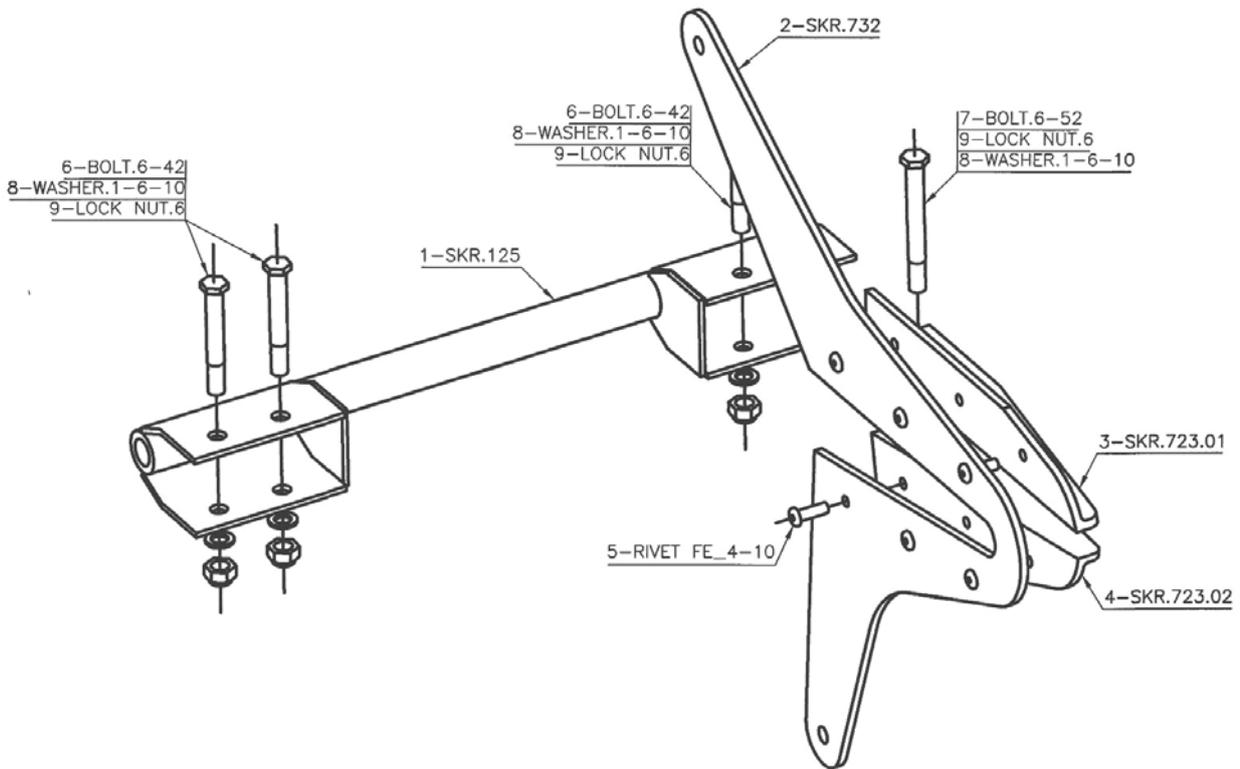
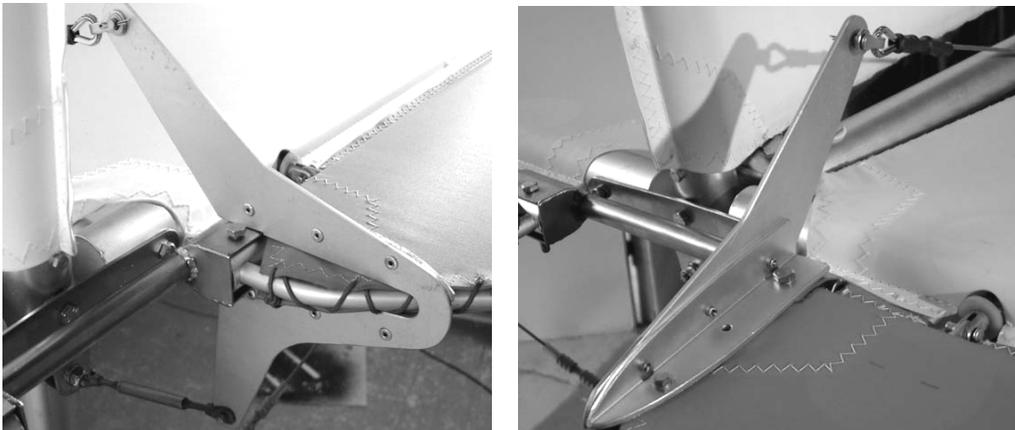

Figure 102; elevator horn.
Figure 103; elevator horn braces.
- a) Dry fit the elevator horn assembly, Figure 102 and Figure 103, and verify that everything aligns and fits.